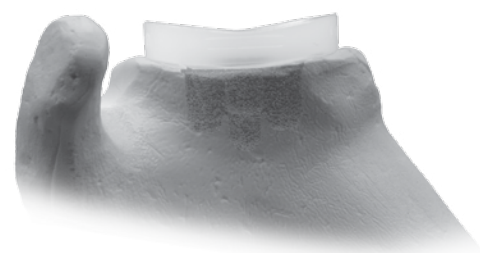

Fig. 28
**NOTE:** It is critical that the implant keel is inserted in alignment with the bone preparation so that full contact is assured (Fig. 28). Do not force the implant into a different orientation.